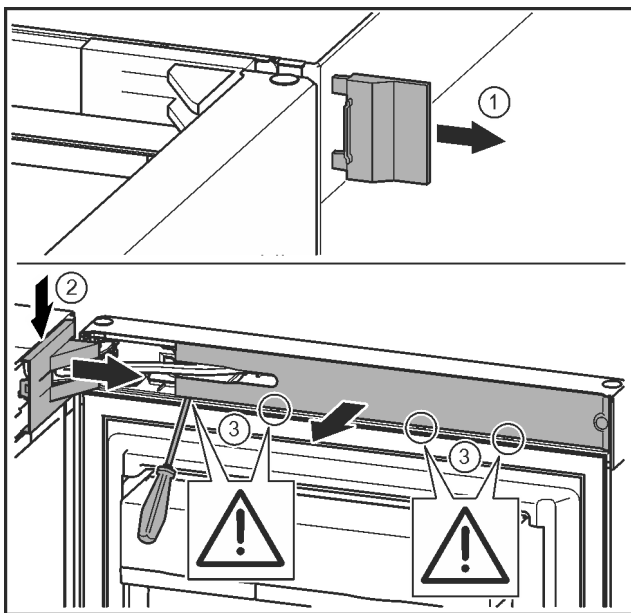

Fig. 12
- ▶ Remove the outer cover. Fig. 12 (1)
- ▶ Disengage and release the bearing bracket cover. Remove the bearing bracket cover. Fig. 12 (2)
- ▶ Unlatch the panel with a slotted screwdriver and swivel it to one side. Fig. 12 (3)